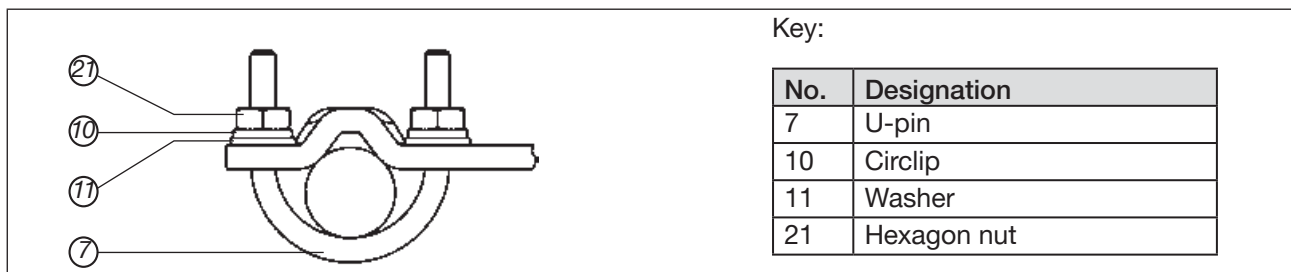

Figure 14: Attach positioner with mounting bracket; for actuators with columnar yoke
→ Attach mounting bracket to the columnar yoke (21) with the U-bolt (7), washers (11), circlips (10) and hexagon nuts (see "Figure 14").